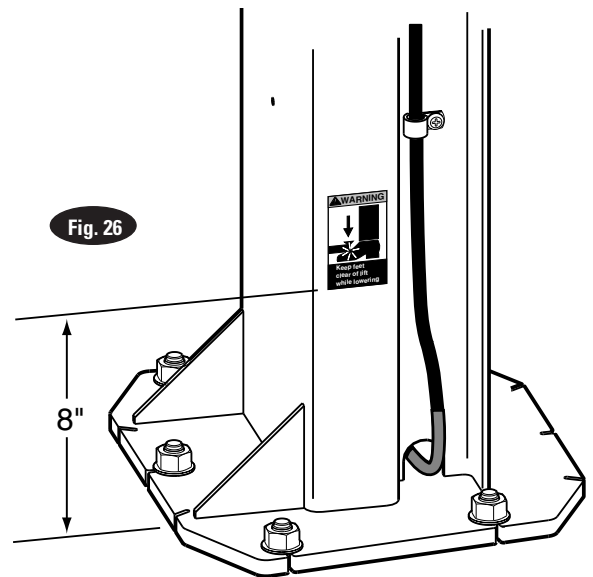

Fig. 26
23. Pinch Point Decal Location: Install enclosed pinch point decals. Place (1) decal on each column, Fig. 26. Decals should be a minimum of 8" from the bottom of decal to the ground.